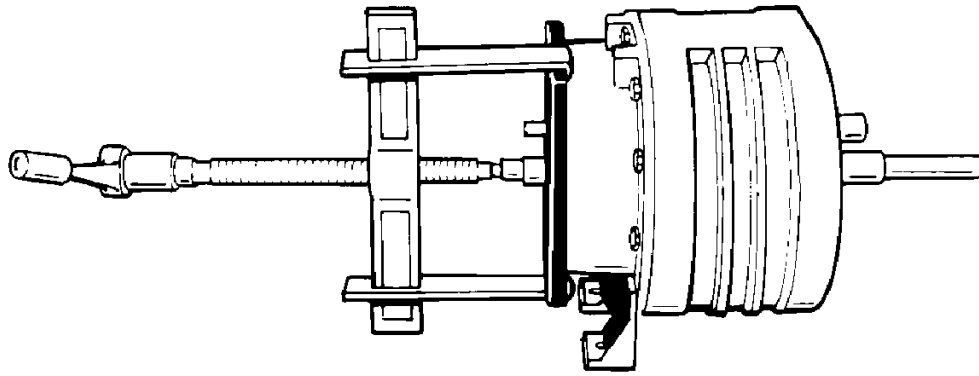

FIGURE 17
14. Remove the four cap screws (10), which fasten the bearing retainers (12) to the gear headplate.
16. Install a gear puller to one of the shafts and attach puller arms to the plate (see FIGURE 17).
17. Remove mounting foot (17) from the gear headplate by removing 4 capscrews (16).
18. Push the impeller shaft through the gear headplate and remove the impeller assembly (23) (see FIGURE 17). Remove the other impeller assembly following the same procedure.
19. Remove the cap screws (21) securing the gear headplate to the impeller case. Located near each dowel pin on the headplate is a threaded hole. Insert a 5/16–18 UNC capscrew into each of the threaded holes. Tighten the screws evenly until the headplate separates from the impeller case.
20. Remove the two gear end bearings (14) from the gear headplate (18) as done in step 12.
21. Remove the oil seals (15) from gear headplate (19) as done in step 13.